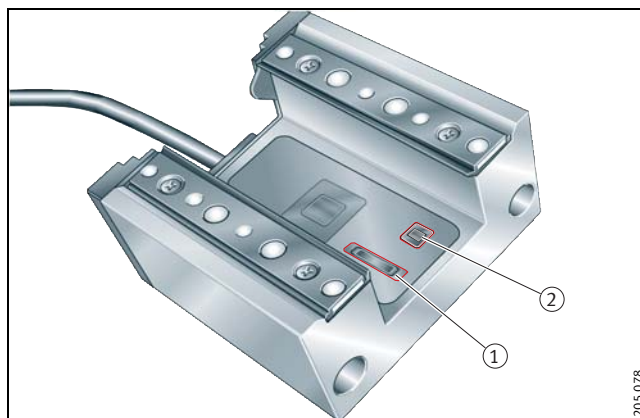

Figure 10 • Measuring head with two sensors ① and ②
The measuring head has one sensor each for the incremental mark ① and the reference point ② (Figure 10).